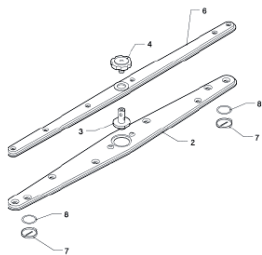

Fig. 13
- it is necessary to remove the nozzles (fig. 13) (lower and upper 2, 6) by unscrewing the screws (4, 3). It is necessary to unscrew the caps (7) located at the both ends of the nozzles.